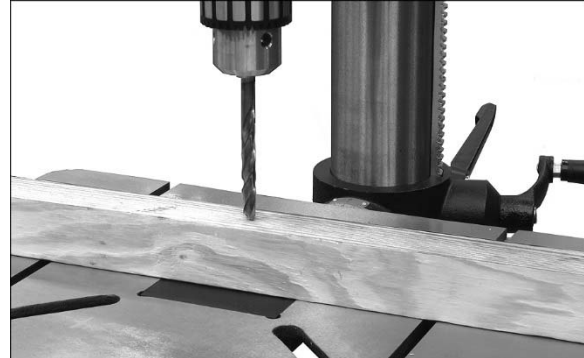
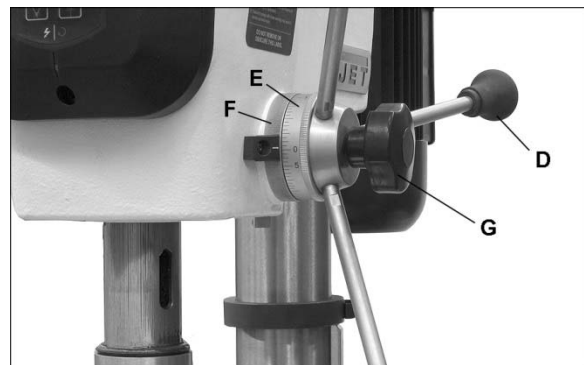

Figure 20
Figure 21
Refer to Figures 20 and 21.
1. Loosen lock handle (G, Figure 21).
2. Use downfeed handles (D, Figure 21) to lower the bit until it just contacts the top surface of workpiece, as shown in Figure 20.
3. Hold downfeed handle in position, and rotate scale ring (E, Figure 21) to zero. This sets the workpiece surface as your zero reference point.
4. Move workpiece out from under bit, and rotate downfeed handle to lower bit until scale ring (E) reads your desired depth.
5. Hold downfeed handle in this position, and rotate lock ring (F) *counterclockwise* as far as